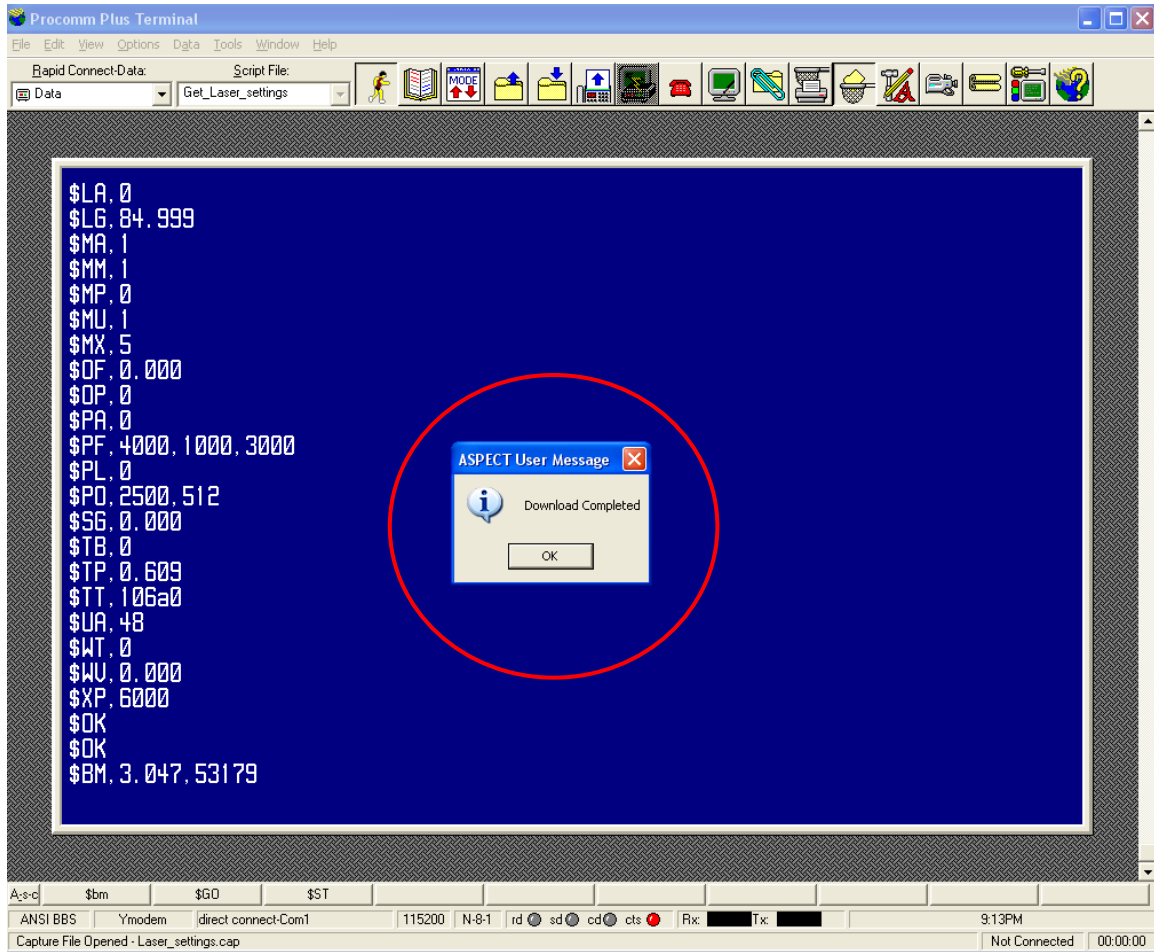

Figure 26
11. A new user message will appear when all settings have been downloaded. Click **OK** to close the Capture file and end the script (fig. 26).